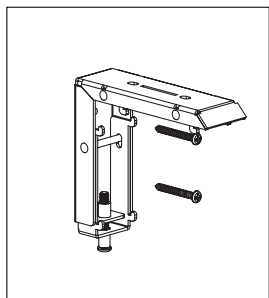

Fig. 2
1. **Mounting on wooden structures:** Screw the enclosed 5x40 mm screws through the holes in the brackets as shown in Figs. 2 and 3.